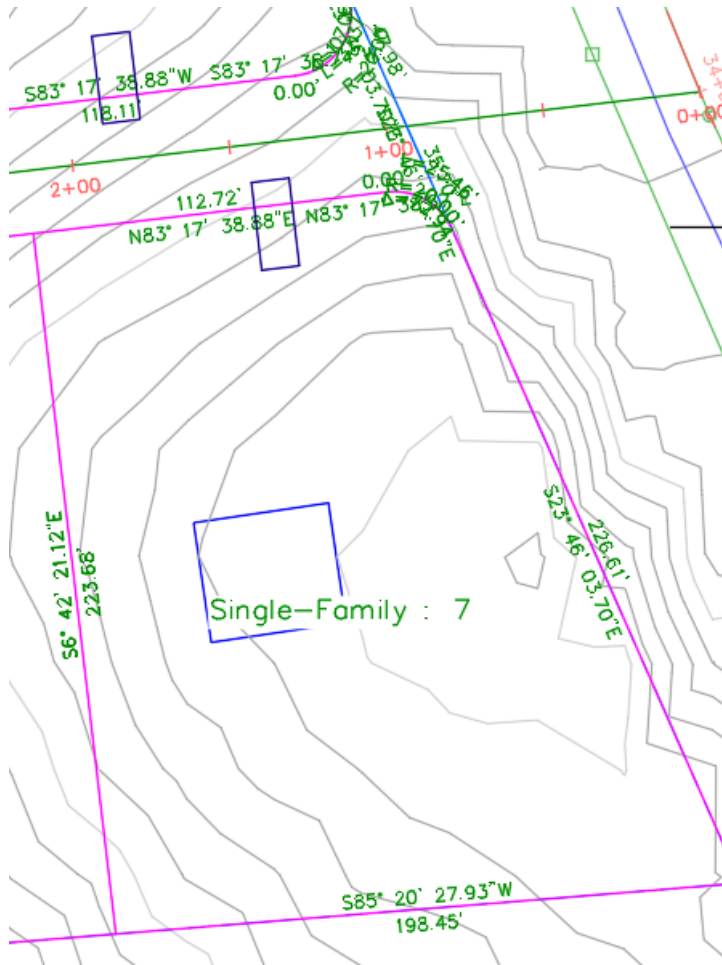

Figure 13.3 – Navigating to our Single-Family : 7 parcel
6. Now, with the **Export Shared Reference Points for Autodesk Revit** command activated, we'll want to direct our attention to the series of command-line prompts to finish the workflow. Additionally, we'll want to navigate in our model to the parcel labeled **Single-Family : 7** in the southeastern portion of our site where we have already added a 2D footprint of a residential house, as shown in *Figure 13.3*.